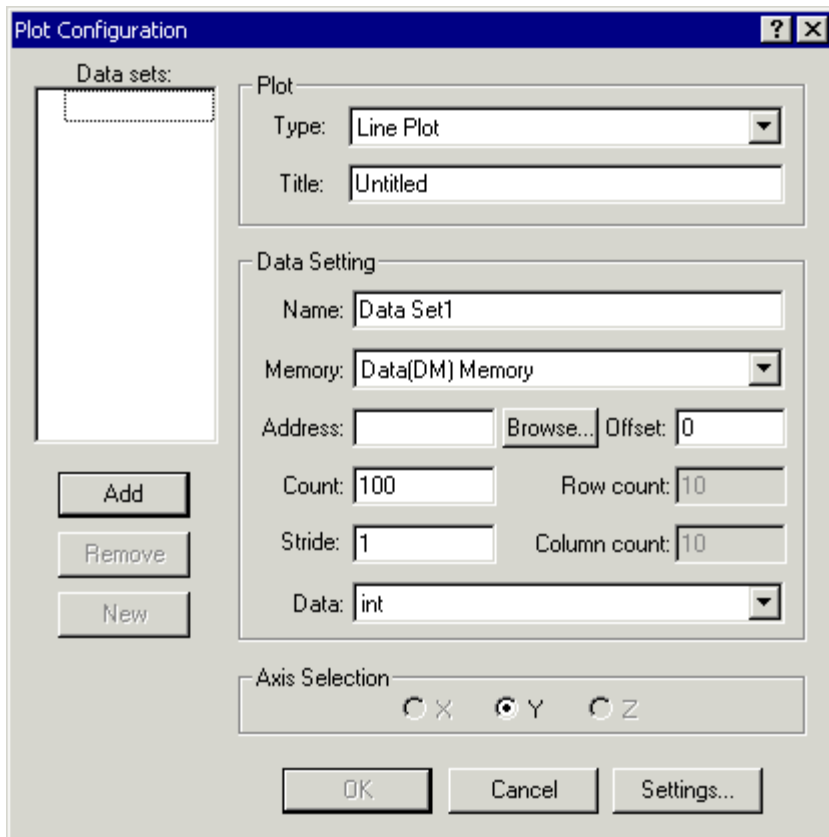

Figure 2-25. Plot Configuration Dialog Box
1. From the **View** menu, choose **Debug Windows** and **Plot**. Then choose **New** to open the **Plot Configuration** dialog box, shown in Figure 2-25 on page 2-37.